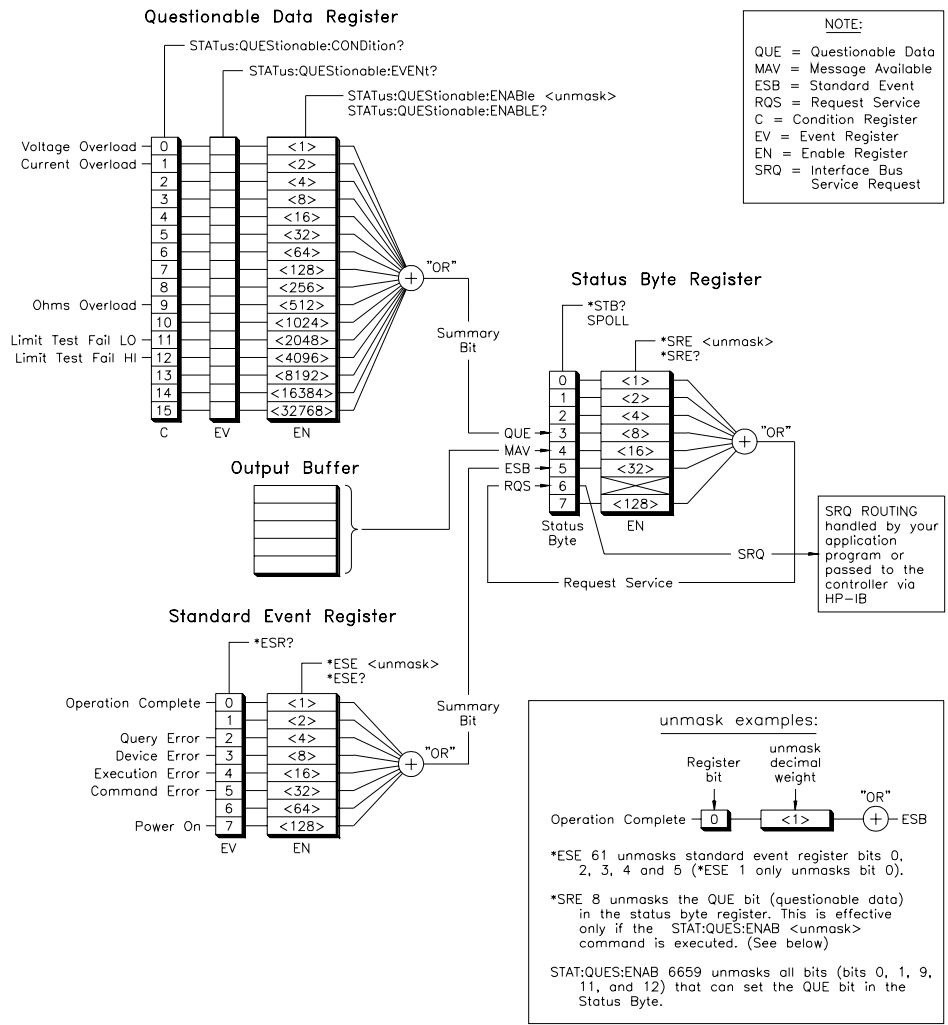

Figure 2-5. HP E1312A/E1412A Multimeter Status System
**See Figure 2-5 for the HP E1312A/E1412A Multimeter status system.**
Figure 2-5 illustrates the HP E1312A and HP E1412A status system. A Questionable Data Register, an Output Buffer and a Standard Event Register each have a respective status bit in the Status Byte Register. The Output Buffer sets the MAV bit when there is data available such as measurement readings or a response to a SCPI query command. The Questionable Data Register and Standard Event Register require you to “unmask” the bits you want to be OR'd into a summary bit which sets the respective bit in the Status Byte. You must also “unmask” the status bits you want OR'd into a summary bit to set the Service Request bit (SRQ) if you want to generate an interrupt. The B-size HP E1312A requires you unmask any bit with the \*SRE command that you want to read with a SPOLL (the HP E1412A does not require this unmasking). The example programs illustrate this requirement.
This program has the multimeter take 10 measurements. The Standard Event bit (ESB) in the status byte (see Figure 2-5 on page 60) is monitored to detect when the operation is complete. Readings are transferred to the output buffer by a FETC? command and retrieved by the computer following the indication that the operation has completed. The Multimeter then calculates the average, minimum and maximum reading.
This program has the multimeter take 10 measurements just like SYNCHOPC. Readings are transferred to the output buffer by a FETC? command. The Message Available bit (MAV) in the status byte (see Figure 2-5 on page 60) is monitored to detect when the measurements are complete and the Multimeter has readings in the output buffer. Readings are retrieved by the computer when the MAV bit in the status byte indicates the measurements are complete and readings are available. The Multimeter then calculates the average, minimum and maximum reading.